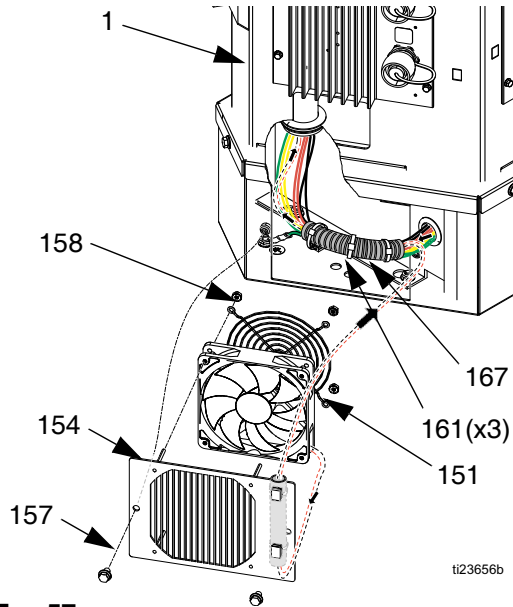

FIG. 57
4. Reinstall corrugated tube (167) on fan and transformer wires. See FIG. 57.